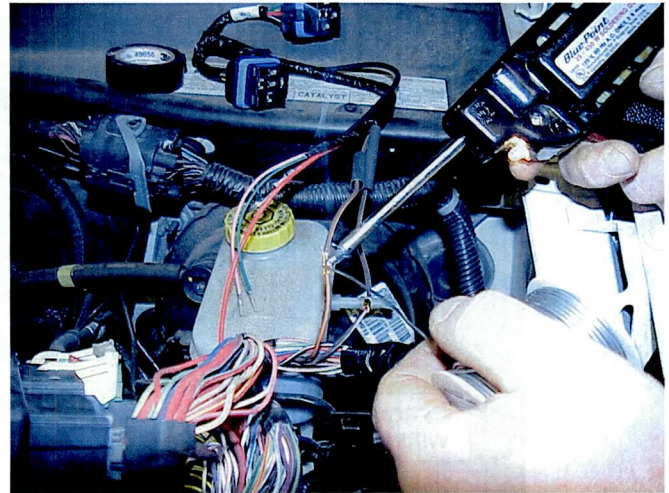

Figure 9 – Solder Brass Crimps
- o. Using a soldering gun, apply solder to both brass crimps installed in Steps 4m and 4n (Figure 9).